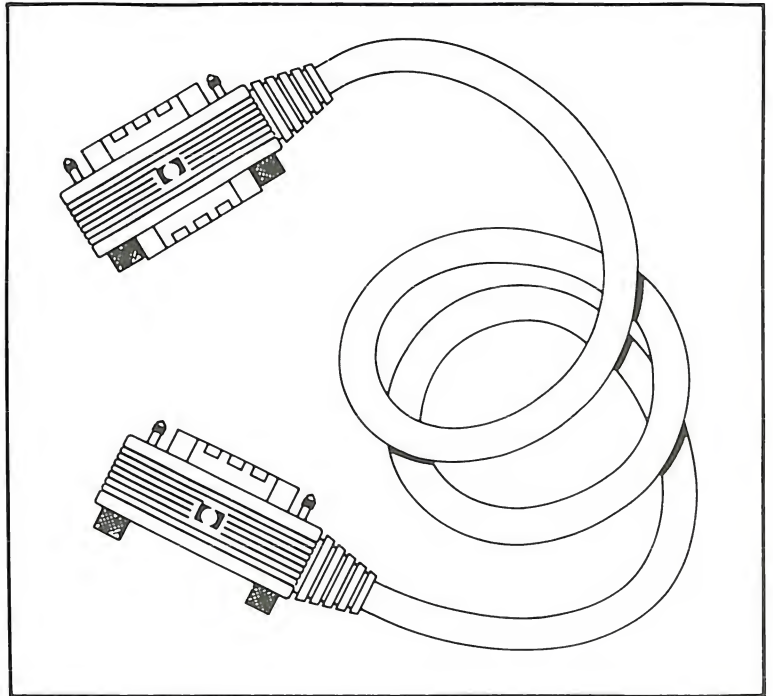

Figure B-5. HP-IB Cable
- a. Look at the cable hooked up to your printer. If it is an HP-IB cable (pictured in Figure B-5), touch the HP-IB DEVICE function label (15) until the asterisk (*) appears.